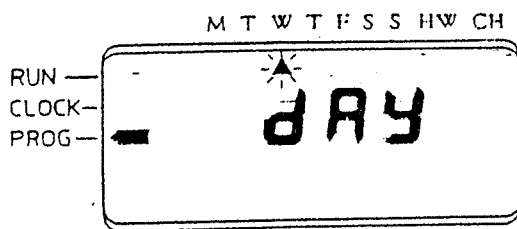

Fig. 7.
- (a) Press the SET button so that the SET INDICATOR is in the PROG position. The display will indicate "day" and the DAY OF THE WEEK INDICATOR will now flash. (Fig. 7).